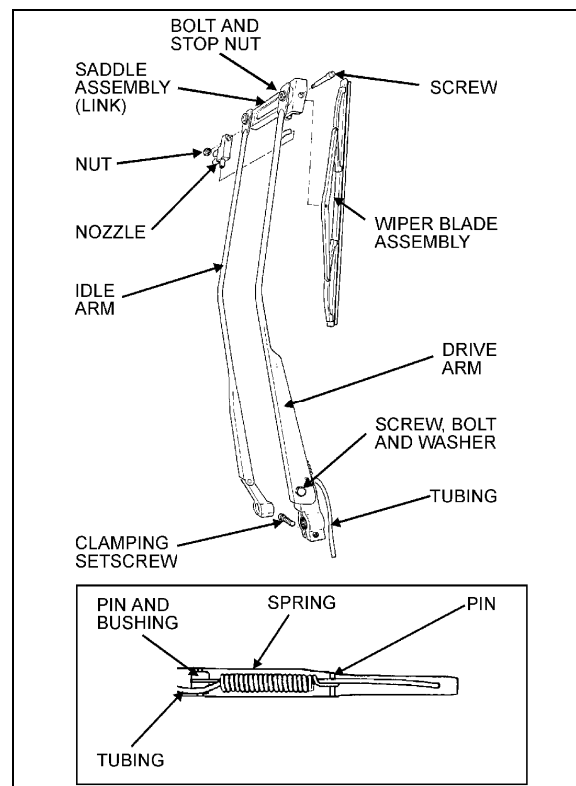

FIGURE 37: LOWER WINDSHIELD WIPER 23086
1. Remove the cap nuts from the wiper arm pivot shafts (Fig. 37 and 38);